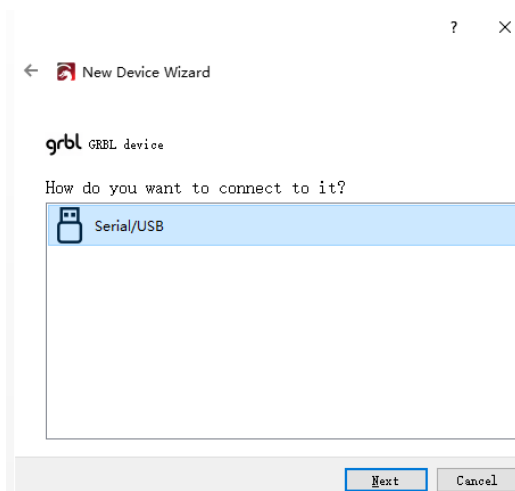

Figure 5.2. Device Connection Mode
- ② Select USB connection (Figure 5.2)